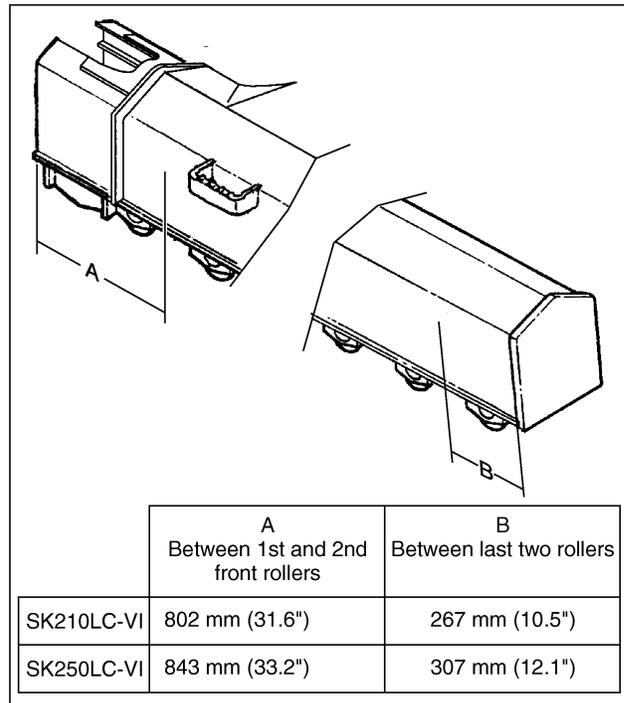

FIGURE 5.4B
- a. Locate lifting locations at the front and rear of each crawler frame. See Figure 5.4B.